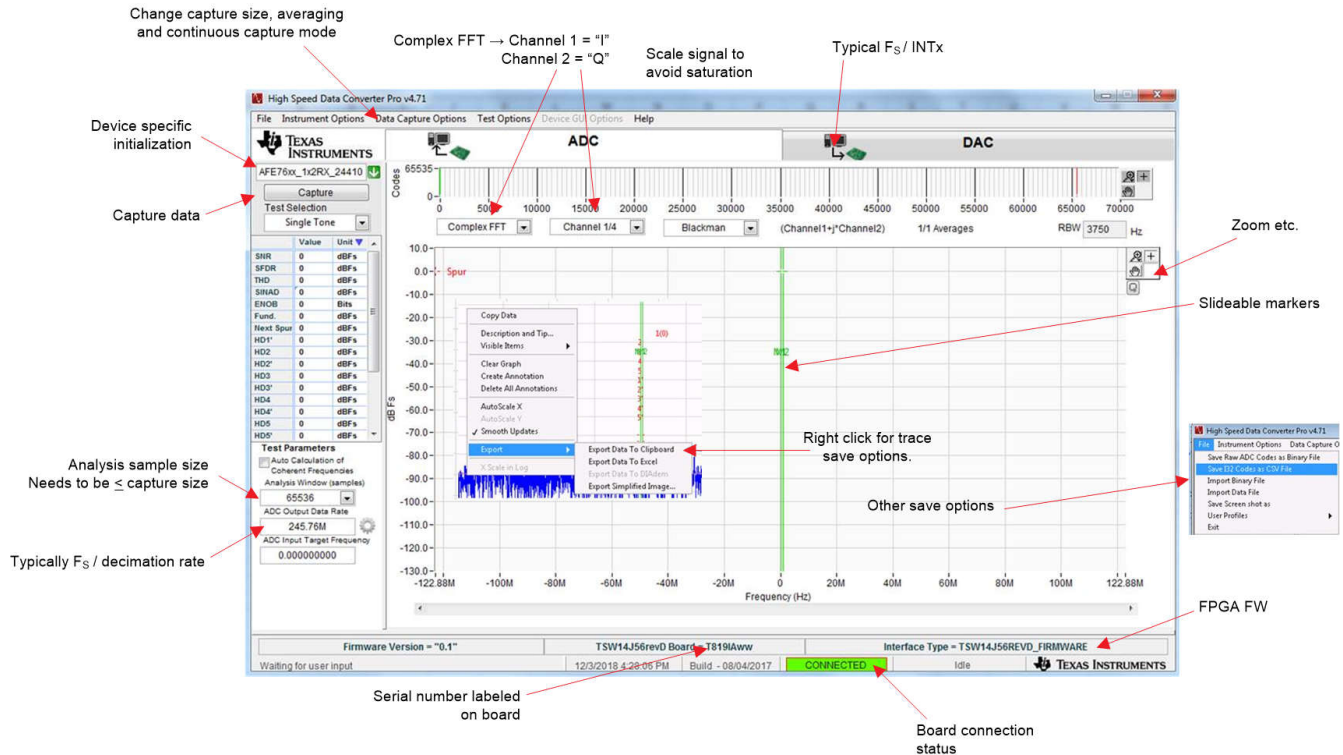

Figure 4-14. HSDC PRO ADC Tab Overview
1. Click on the HSDC PRO ADC tab. Figure 4-14 shows a brief description of the ADC tab.